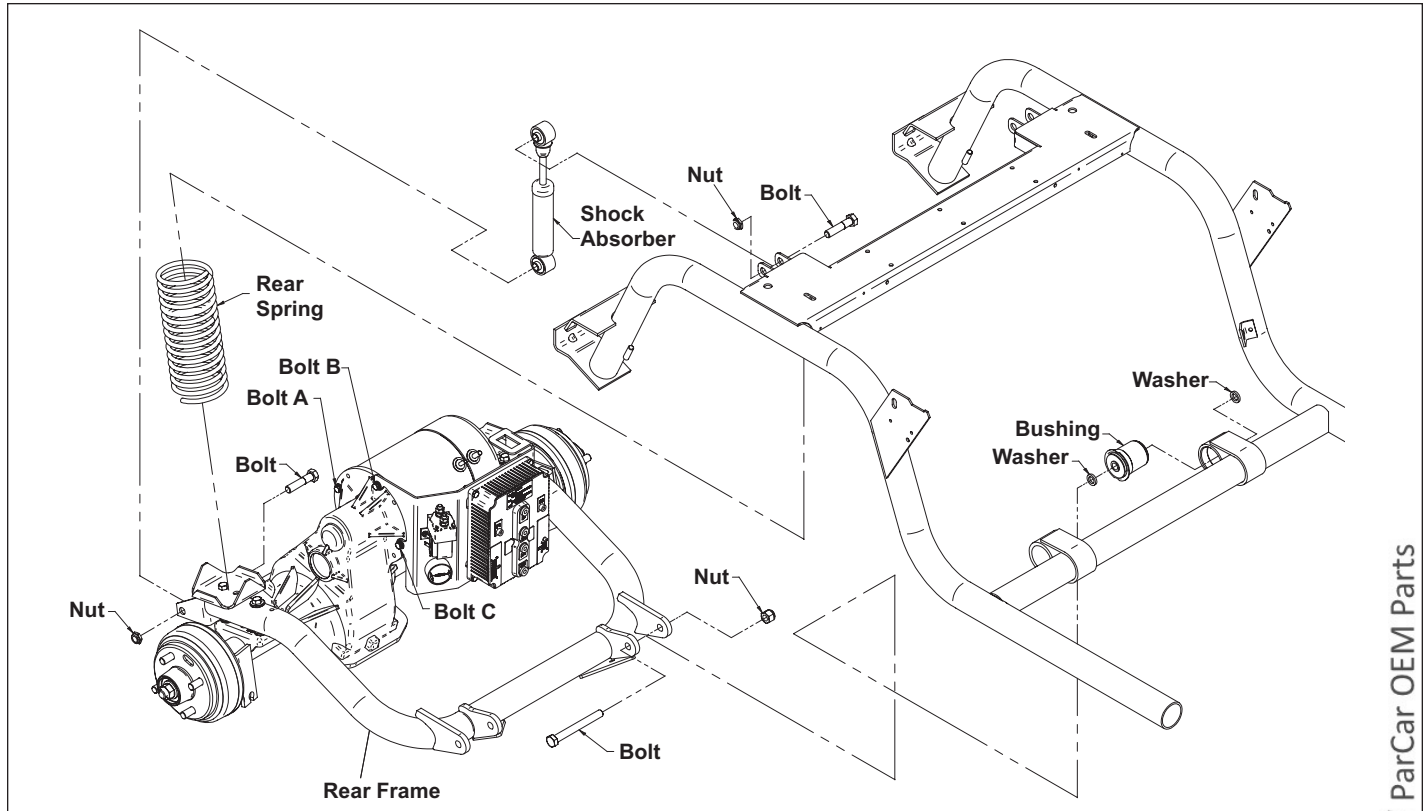

Figure 7-3. Rear Suspension
2. Remove upper and lower mounting bolts and nuts securing shock absorber (Figure 7-3).
3. Slowly lower the rear carrier/axle assembly until springs can be removed (Figure 7-3).
2. Remove the two bolts, washers and nuts securing the rear frame to the frame (Figure 7-3).